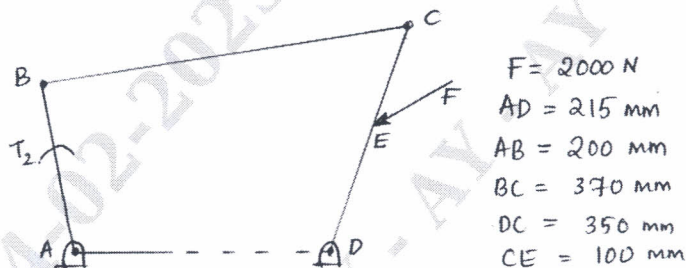

Fig.Q4(b)
- b. In the Fig.Q4(b) a four bar mechanism is shown. Determine the required value of  $T_2$  and various forces on links for the equilibrium of the system.